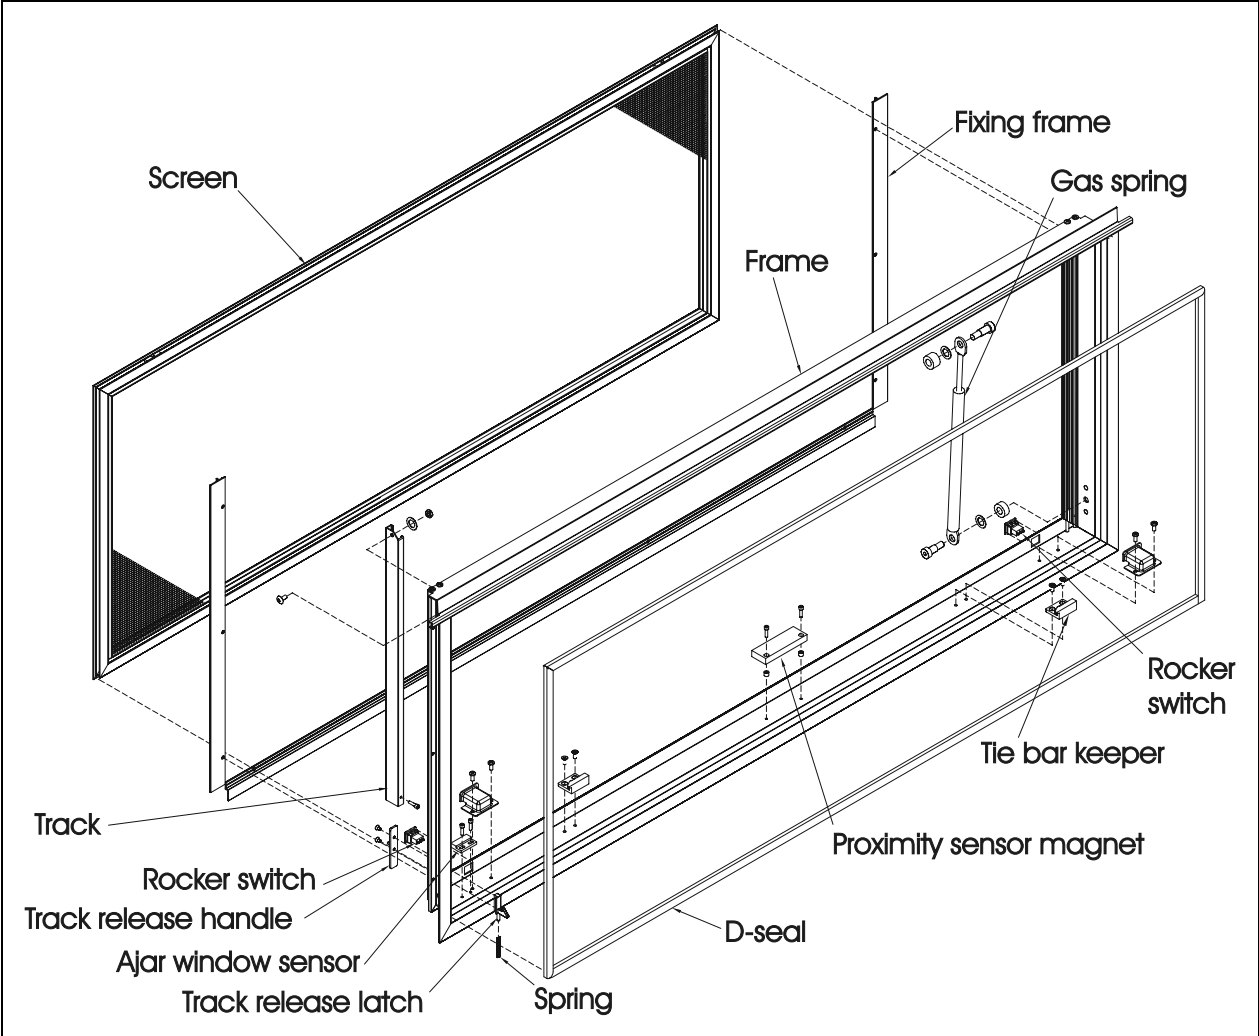

FIGURE 39: ELECTRIC AWNING WINDOW EXPLODED VIEW (FRAME)
4. Loosen the set screws #5 (figure 39)(rotate the arm to get to the second set screw) and disengage the swiveling arm from the motor shaft extension.